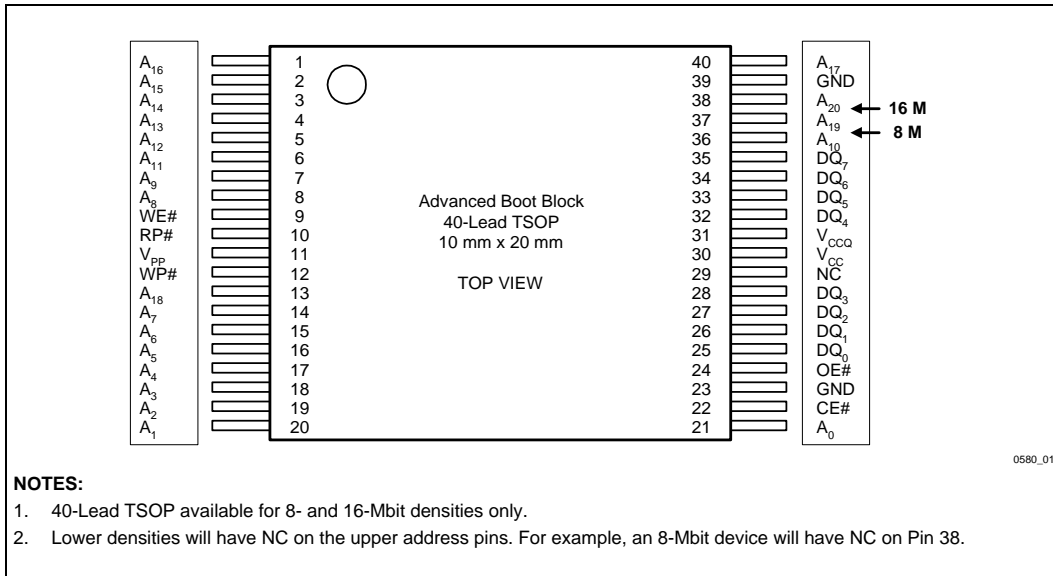
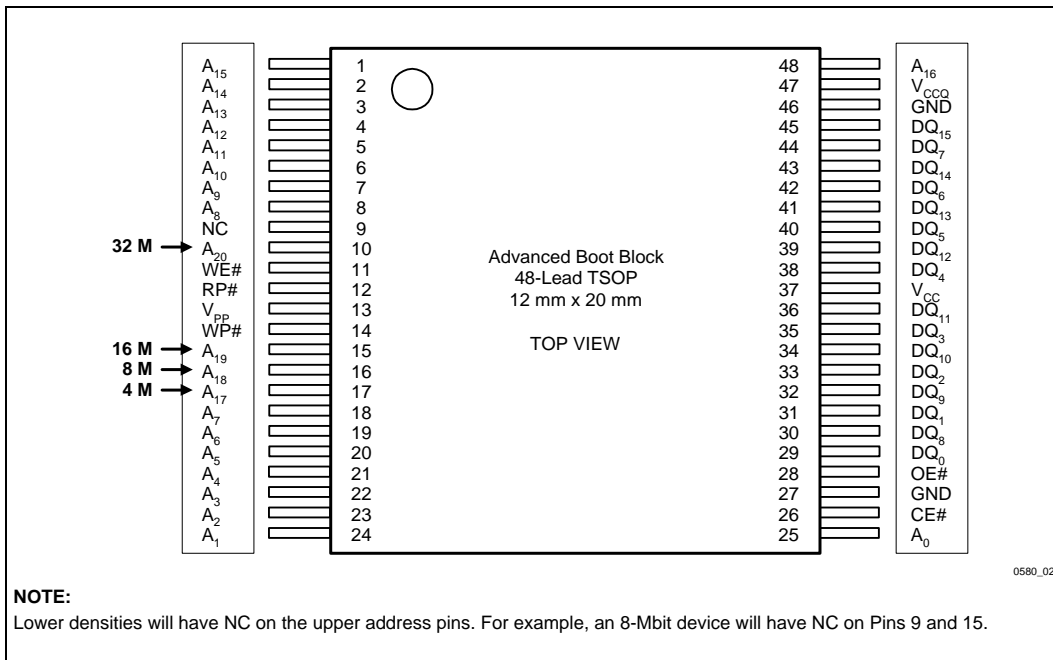
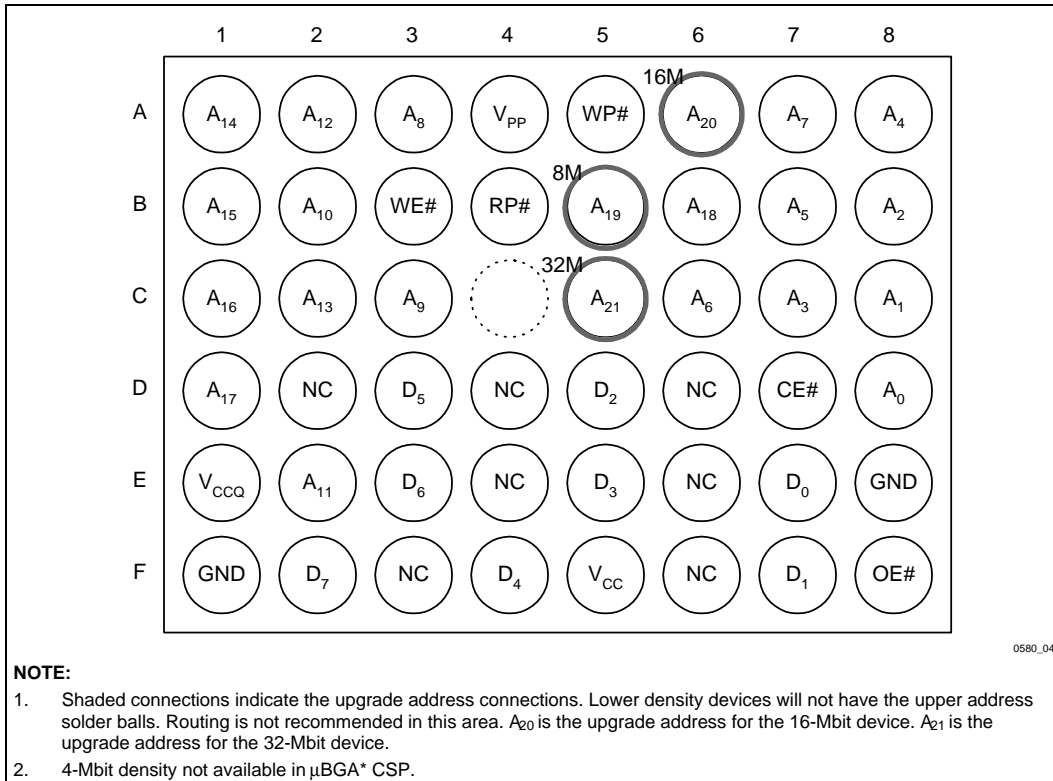

Figure 1. 40-Lead TSOP Package for x8 Configurations
Figure 2. 48-Lead TSOP Package for x16 Configurations
Figure 3. x8 48-Ball μBGA* Chip Size Package (Top View, Ball Down)
-005	<p>µBGA package diagrams corrected (Figures 3 and 4)</p> <p>I_{PPD} test conditions corrected (Section 4.4)</p> <p>32-Mbit ordering information corrected (Section 6)</p> <p>µBGA package top side mark information added (Section 6)</p>
- V_{CCQ} input of 1.65 V–2.5 V on all I/Os. See Figures 1 through 4 for pinout diagrams and V_{CCQ} location
The Smart 3 Advanced Boot Block flash memory is available in 40-lead TSOP (x8, Figure 1), 48-lead TSOP (x16, Figure 2) and 48-ball μ BGA packages (x8 and x16, Figure 3 and Figure 4 respectively). In all figures, pin changes necessary for density upgrades have been circled.